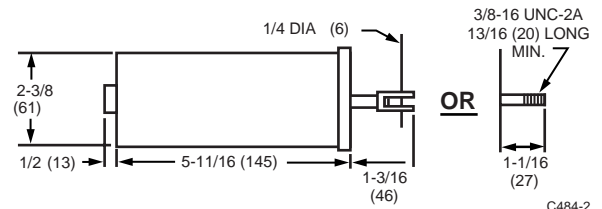

Fig. 1. MP909D approximate dimensions in in. (mm).
1. Refer to Fig. 1 for dimensions.